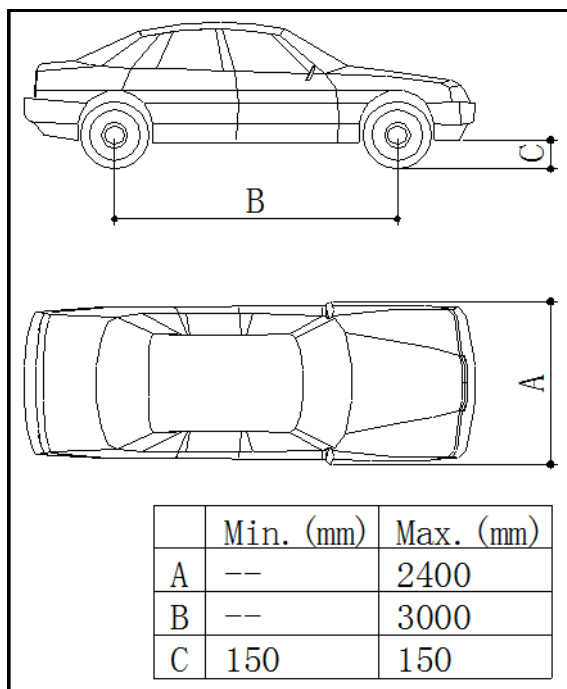
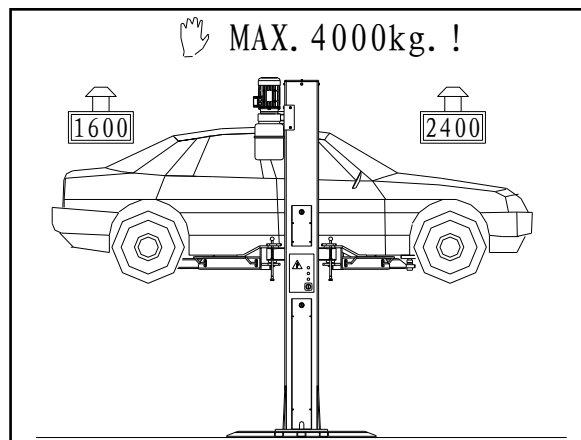

Fig. 6
Fig. 7 Weight Distribution
- ◆ Only authorized vehicle (*Fig. 6 & Fig. 7*) are raised without exceeding the rate capacity and overall dimensions.